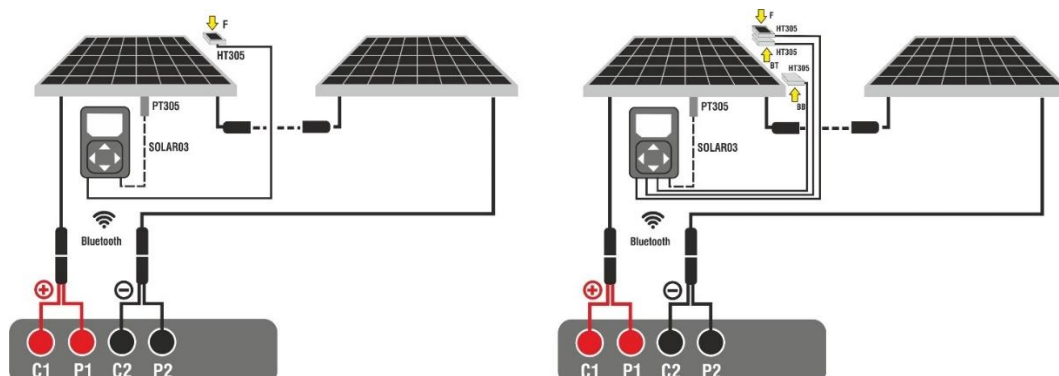

Fig. 63: Connection with remote unit SOLAR03 on Monofacial and Bifacial modules
3. Connect the instrument and the SOLAR03 remote unit to the module/string being tested as shown in Fig. 63. In detail:
- **In case of Bifacial modules**→, position the **three HT305 reference cells** on the front surface of module (**F**), on the top back section (**B T=BackTop**) and on the bottom back section (**BB=BackBottom**) of the module. Connect the front reference cell (F) to input "INP1", BT reference cell to input "INP2", BB reference cell to input "INP3" and **possibly** the temperature probe **PT305** to input "INP4" of the remote unit. In accordance with the IEC/EN60904-1-2 standard, the instrument calculates the equivalent front-side Irradiance (**Irreq**) value, which corresponds to the Irradiance on the front surface only, which produces the same effects as the Irradiance measured on both sides, considering the **bifaciality factor** ( $\phi$ ) of the module according to the following relationship: